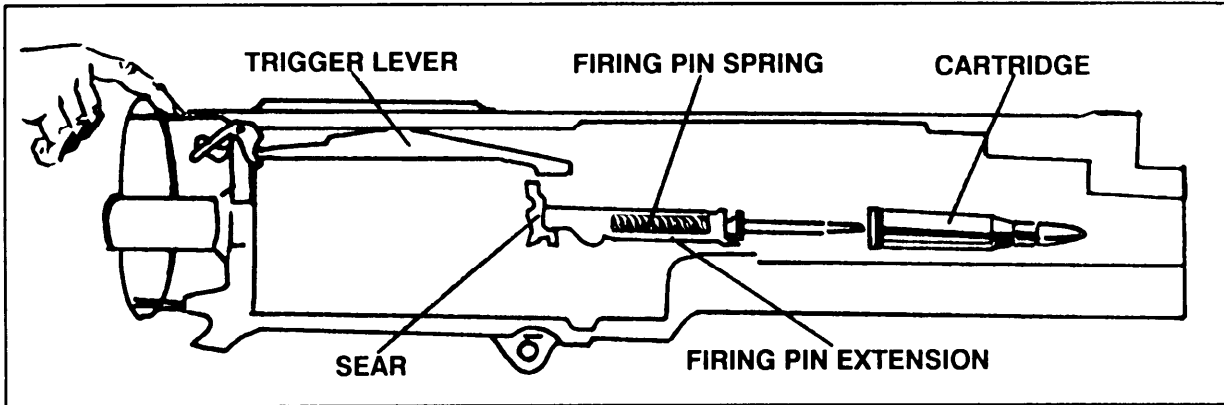

Figure 3-12. Firing - ready to fire.
(1) As the trigger is pressed down, it pivots on the trigger pin, so that the trigger cam on the inside of the backplate engages and raises the rear end of the trigger lever. This in turn pivots on the trigger lever pin assembly, causing the front end of the trigger lever to press down on the top of the sear stud. The sear is forced down until the hooked notch of the firing pin extension is disengaged from the sear notch. The firing pin and firing pin extension are driven forward by the firing pin spring; the striker of the firing pin hits the primer of the cartridge, firing the round (Figures 3-12 and 3-13, page 3-8).